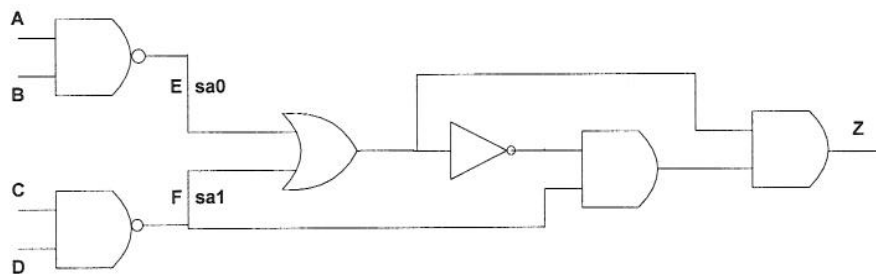

Figure 6.2
- c) Generate test vectors for detecting the stuck-at zero and stuck-at one faults in nodes E and F respectively of the circuit shown in Figure 6.2. [6]
- c) Generate test vectors for detecting the stuck-at zero and stuck-at one faults in nodes E and F respectively of the circuit shown in Figure 6.2.